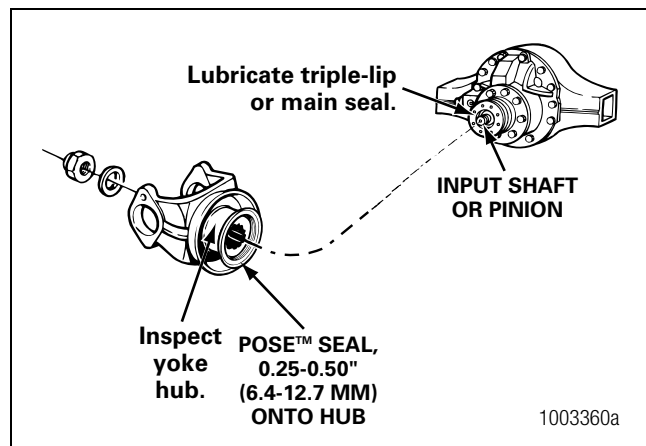

Figure 5.29
- B. Partially install the POSE™ seal onto the yoke 0.25-0.50-inch (6.4-12.7 mm). Figure 5.29.